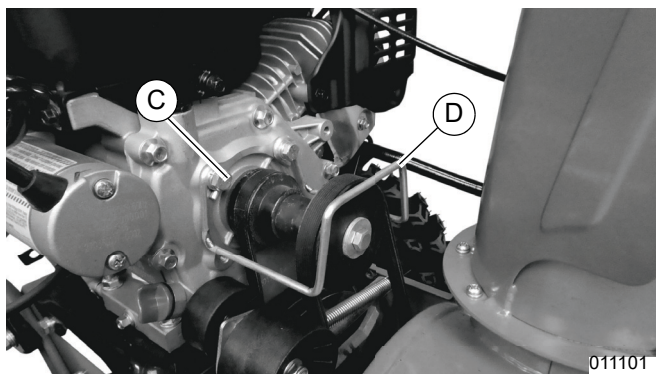

Figure 4-13. Removing Belt Guide
2. See Figure 4-13. Remove two bolts, lock washers, and flat washers (C) securing belt guide (D) using a 13mm wrench. Remove belt guide.